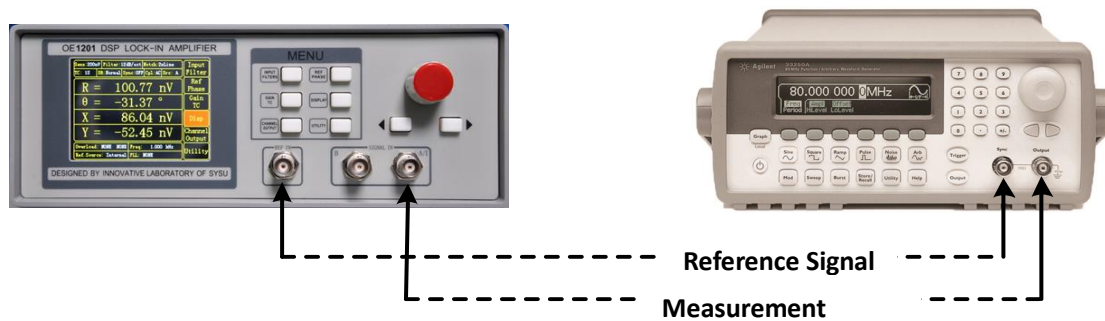

Fig.63 Signal Cable Diagram
2. Use a BNC cable to connect the output of the function signal generator and the A/I input of the OE1201. Use another BNC cable to connect the reference signal of the function signal generator and the REF IN of the OE1201, as is shown in Fig.63.